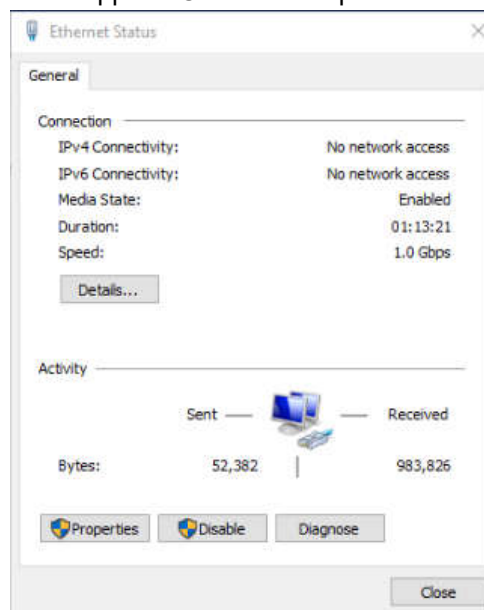

Figure A-4. Opening the Properties Tab for the Ethernet Connection
- A window as shown in Figure A-4 will appear. Click the “Properties” button.